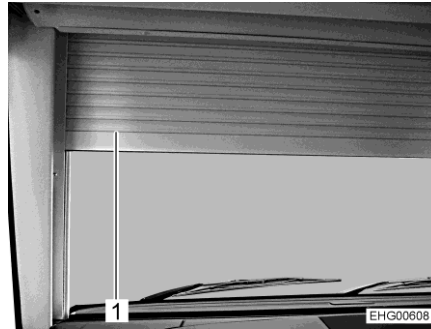

Fig. 72 Blind used as sun visor
- Turn the turn latches from the parking position (Fig. 71,2) into the driving position (Fig. 71,1). In order to do this, turn the turn latch on each side of the windscreen inwards as far as it will go. In this range, you can move the blind up to the turn latches using it as sun visor (Fig. 72,1).